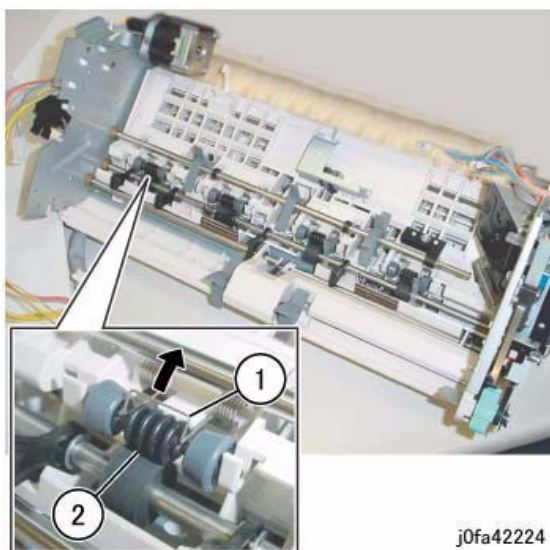

Figure 1 Removing the Pinch Rolls
5. Remove the Pinch Roll (Figure 1):